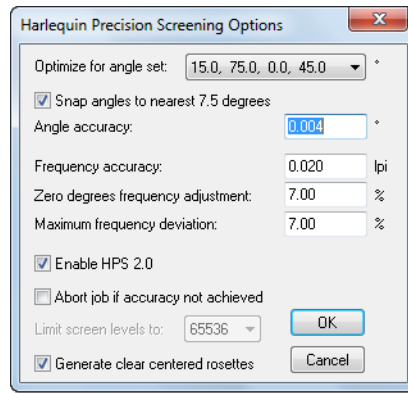

Figure 6.6 Harlequin Precision Screening Options dialog box
- When using HPS, the RIP produces the number of gray levels required to attain the specified accuracy of screening, as set in the HPS Options dialog box, shown in Figure 6.6, page 165.